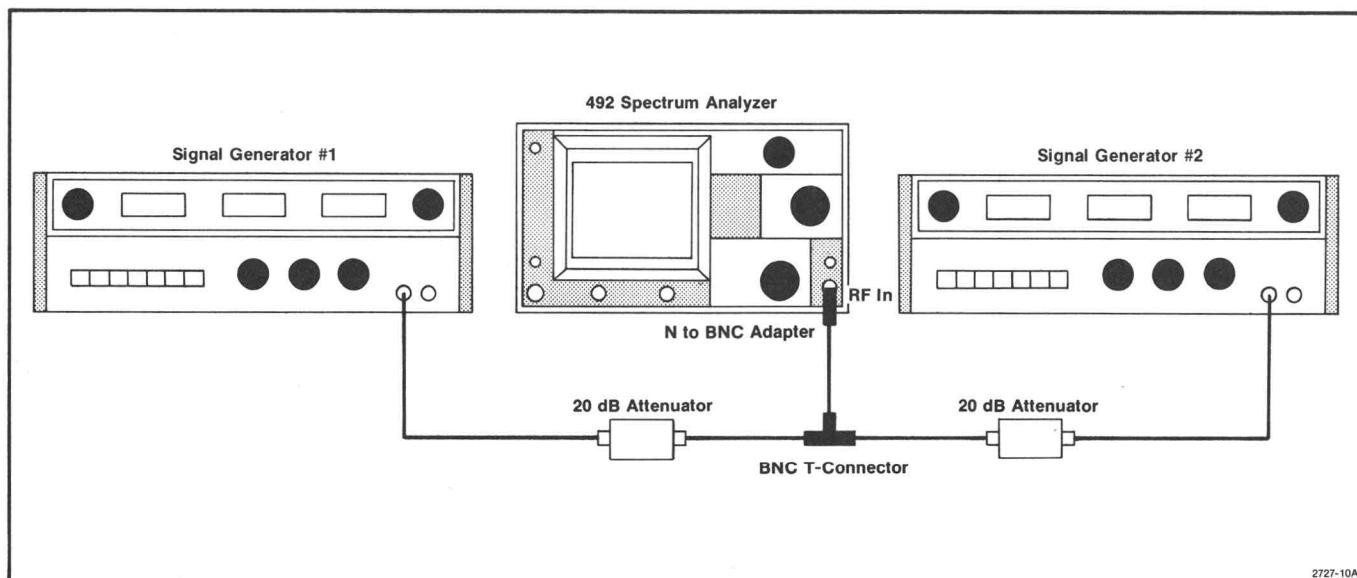

Fig. 3-13. Test equipment setup for measuring intermodulation distortion.
b. Apply two signals from two 50 Ω sources, separated about 2 MHz and within the frequency range of band 1. Apply the signals through 20 dB attenuators (for isolation), a BNC "T" connector, and BNC-to-N adapter, to the 492 RF INPUT (test equipment setup is shown in Fig. 3-13).